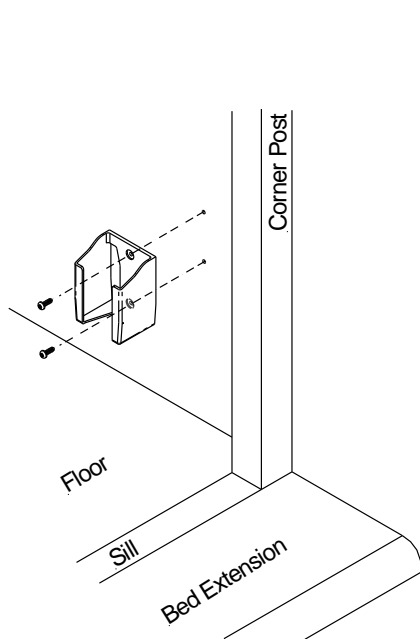

Fig.46
1. Mount the holster approximately 40"- 48" from the floor, or determine the best location as preferred by end user, **Fig.46**.